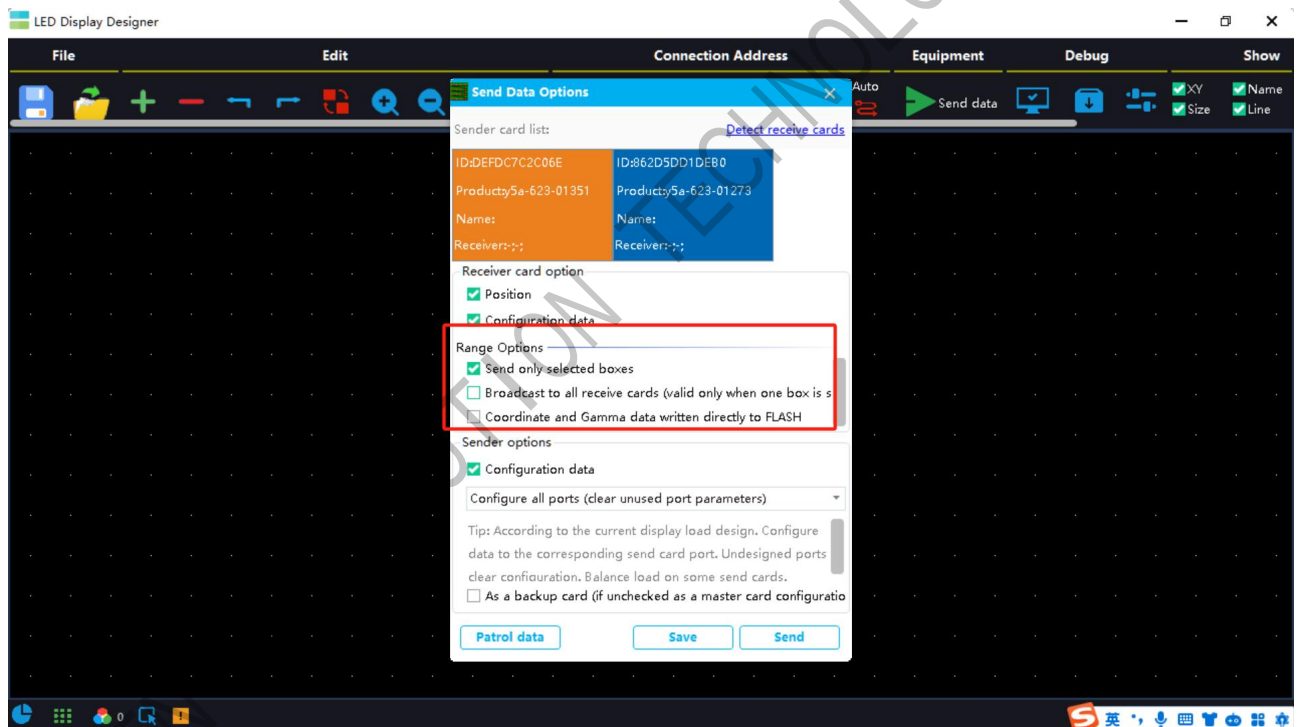

Figure 4-3-10
(4) Send, solid data: After completing the display connection, click the 'Send' button to enter the data sending window, the default selection of the receiver card configuration data, location and sending card configuration data, and then click the 'Send' button, display system Click 'Send' button to send the configuration file of the display system, after observing that the display shows normal, click 'solidify' button to solidify the display configuration file to the receiver card and the sender card. You can also send the selected area individually, or send a single box file in a group, as shown in Figure 4-3-10.